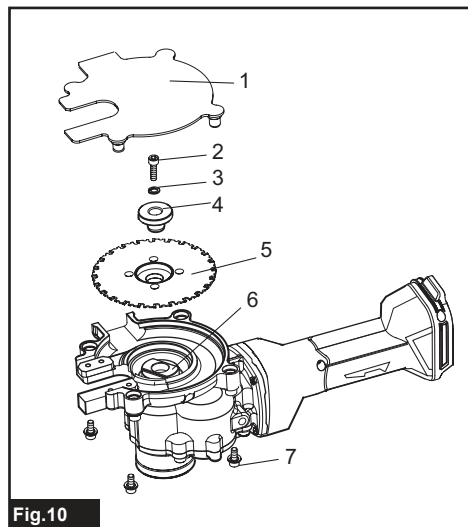

Fig.10
- Fig.10: 1. Tipped Saw Cover 2. Bolt 3. Washer